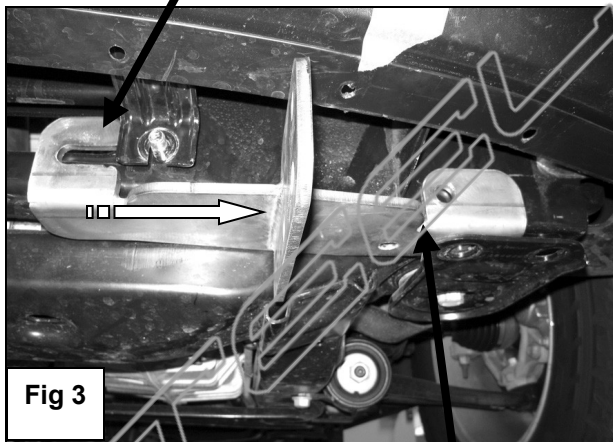

Fig 3
5. Slide the slotted opening on the Mounting Bracket around the radiator support bolt and between radiator bracket and frame, while you slide the Mounting Bracket between motor mount bushing (**Figure 3**).